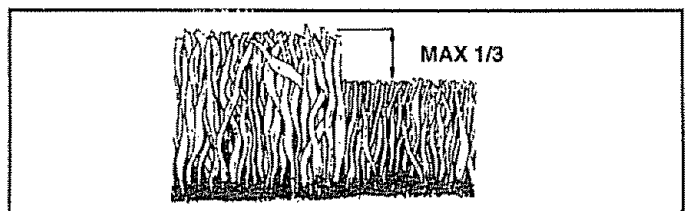

FIG. 11B
- For best results, adjust the mower cutting height so that the mower cuts off only the top one-third of the grass blades (See Fig. 11B). For extremely heavy mulching, reduce your width of cut and mow slowly.